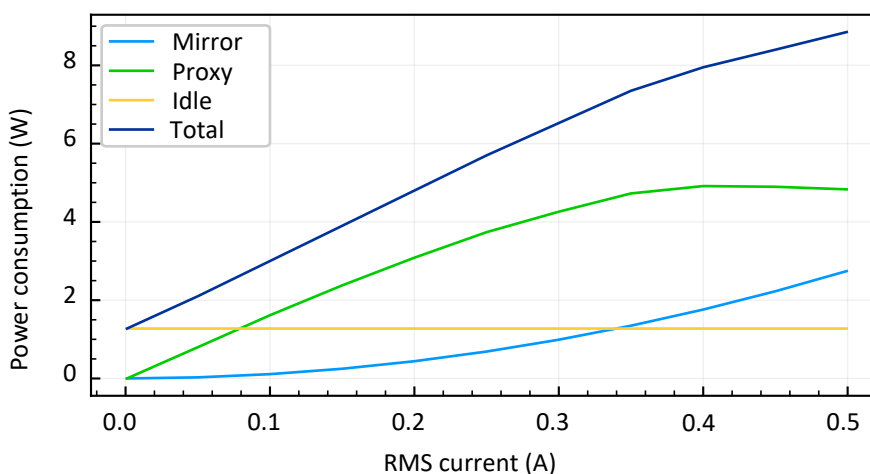

Figure 1: Power consumption dependencies for different parts of the device.
- Heat is generated as a function of actuation current (see blue curve in Figure 1) and conducted away through the backside
- Maximum dissipated power at max. static deflection is 2W/channel (4W total), see green curve in Figure 1